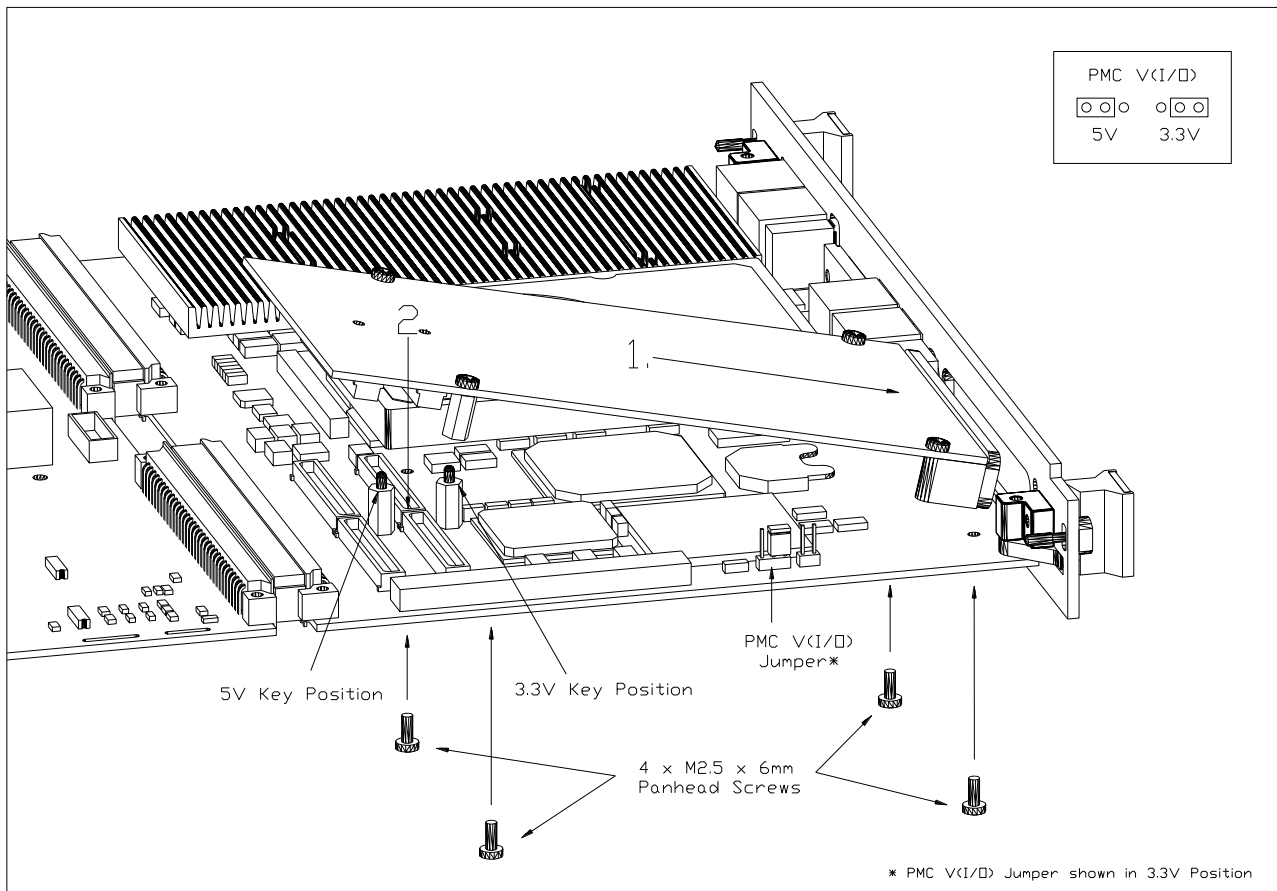

Figure 6 - PMC Module Assembly
To install the PMC module, insert it first into the front-panel cutout (1) and then press it down (2) until the PMC connectors Pn1/Jn1 to Pn4/J4 are seated correctly. Fix the PMC module on the board using four M2.5x6mm screws as shown in Figure 6.